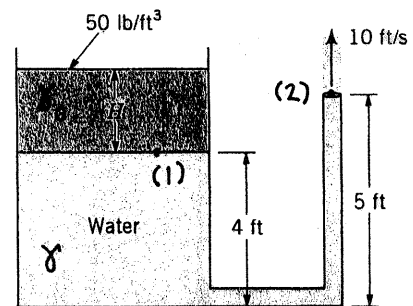

FIGURE P3.29
3.29 Water (assumed inviscid and incompressible) flows steadily with a speed of 10 ft/s from the large tank shown in Fig. P3.29. Determine the depth, H , of the layer of light liquid (specific weight = 50 lb/ft³) that covers the water in the tank.